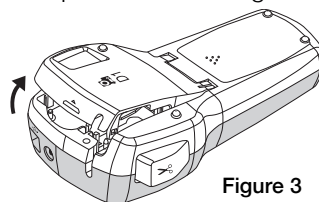

Figure 3
- 1 Lift the label cassette cover to open the label compartment. See Figure 3.